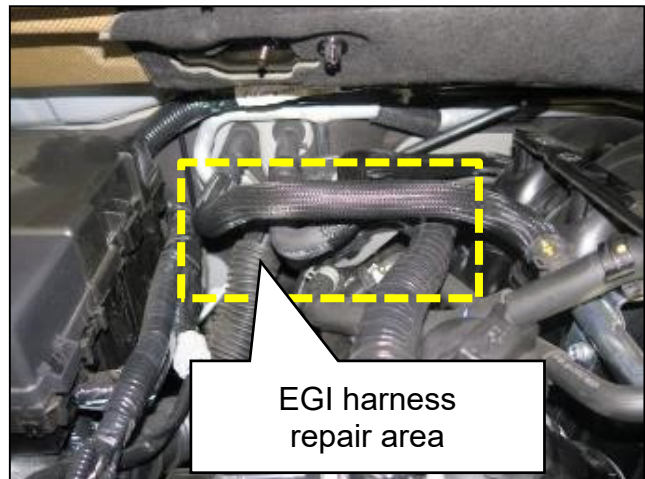

Figure 4
**NOTE:** The EGI harness repair will be performed toward the back of the passenger side valve cover, as shown in Figure 4.